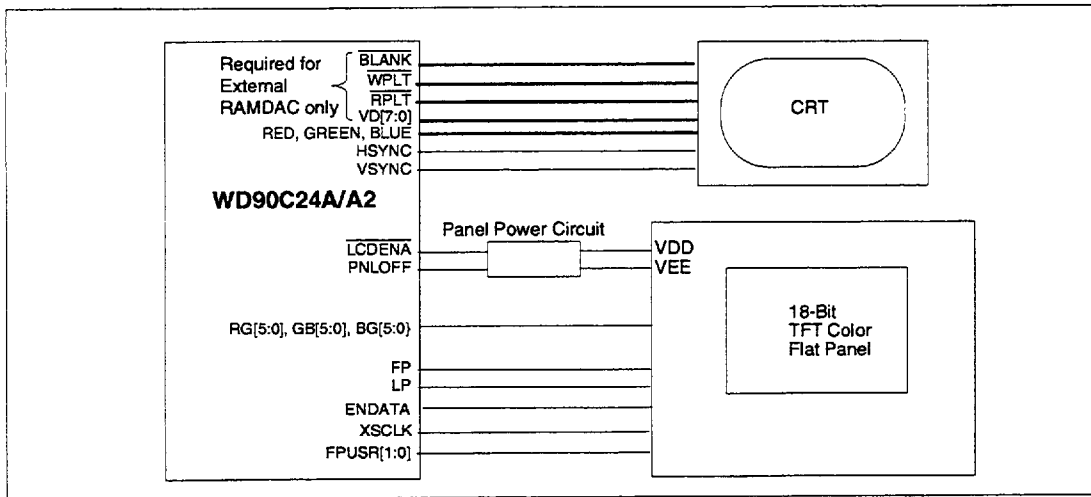

FIGURE 26-5. SIMULTANEOUS CRT AND 18-BIT COLOR TFT LCD PANEL INTERFACE
- Simultaneous CRT and 18-Bit Color TFT LCD Panel Interface (Figure 26-5)